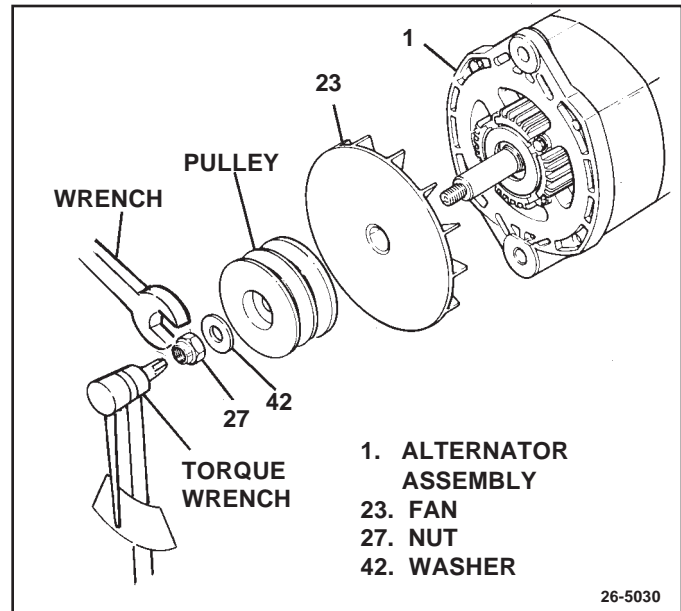

Figure 46. Installing Fan and Pulley
30. Install spacer and slinger to DE frame on models so equipped (refer to Service Parts section of this manual). Place fan (23) onto rotor shaft with vanes toward body of alternator, (See Fig. 46) followed by baffle, if used. Install pulley suitable for engine application. Several pulley styles are available from AC-Delco for 7/8" shaft alternators, including a blank that can be custom machined for unique applications. Place shaft nut washer (42) and shaft nut (27) onto shaft. The shaft nut should be positioned with flat side next to washer.